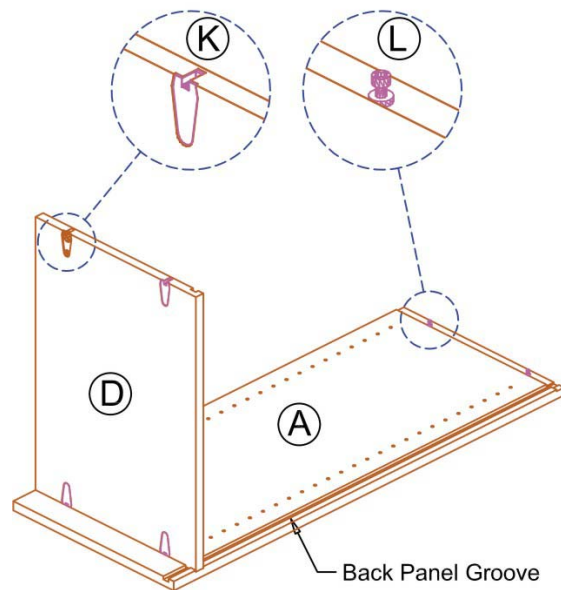

Figure 2
3. Locate top panel C and bottom panel D. Insert CAM fittings firmly into CAM holes in panels C and D until flush with panel surface as shown in **(Figure 2)**.